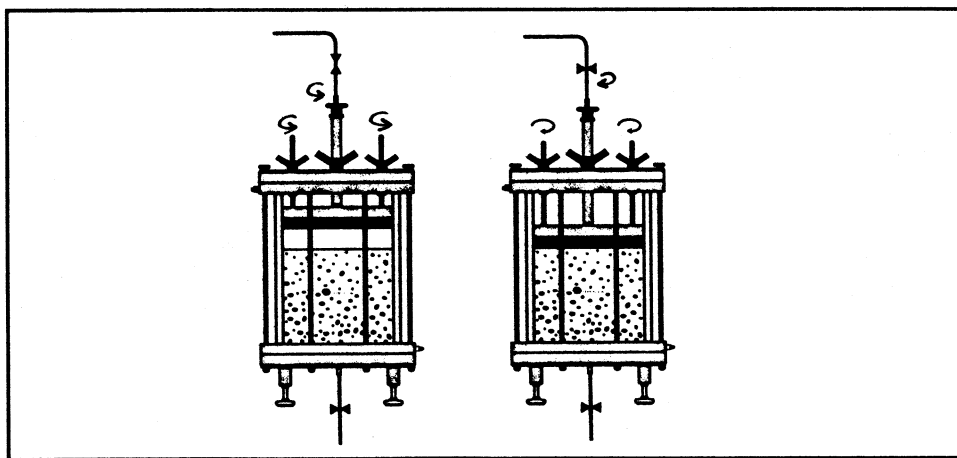

Fig. 10 : Final adjustment of the piston on the surface of packed gel
- 11) Back-off compression of the piston seal (turn piston seal actuation handwheel counter clockwise) (and pressure rods on 300 and 450 mm diameter columns) leaving the seal lightly in contact with the glass column wall, and lower the piston gradually. When the frit contacts the surface of the packed chromatographic support, tighten the piston seal (fig. 10) (and pressure rods).